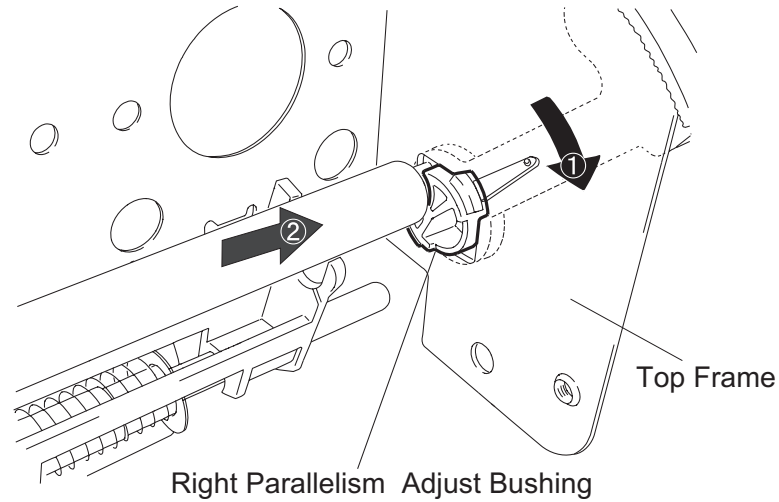

Figure 3-46. Parallelism Adjustment Bushing Removal
6. Remove 1 E-ring and 1 screw (CBS, 3x6, F/Zn) securing the right parallelism adjustment bushing to the top frame. Then turn the bushing forward until it fits into the cutout in the top frame and slide it to the right. (Refer to Figure 3-46.)